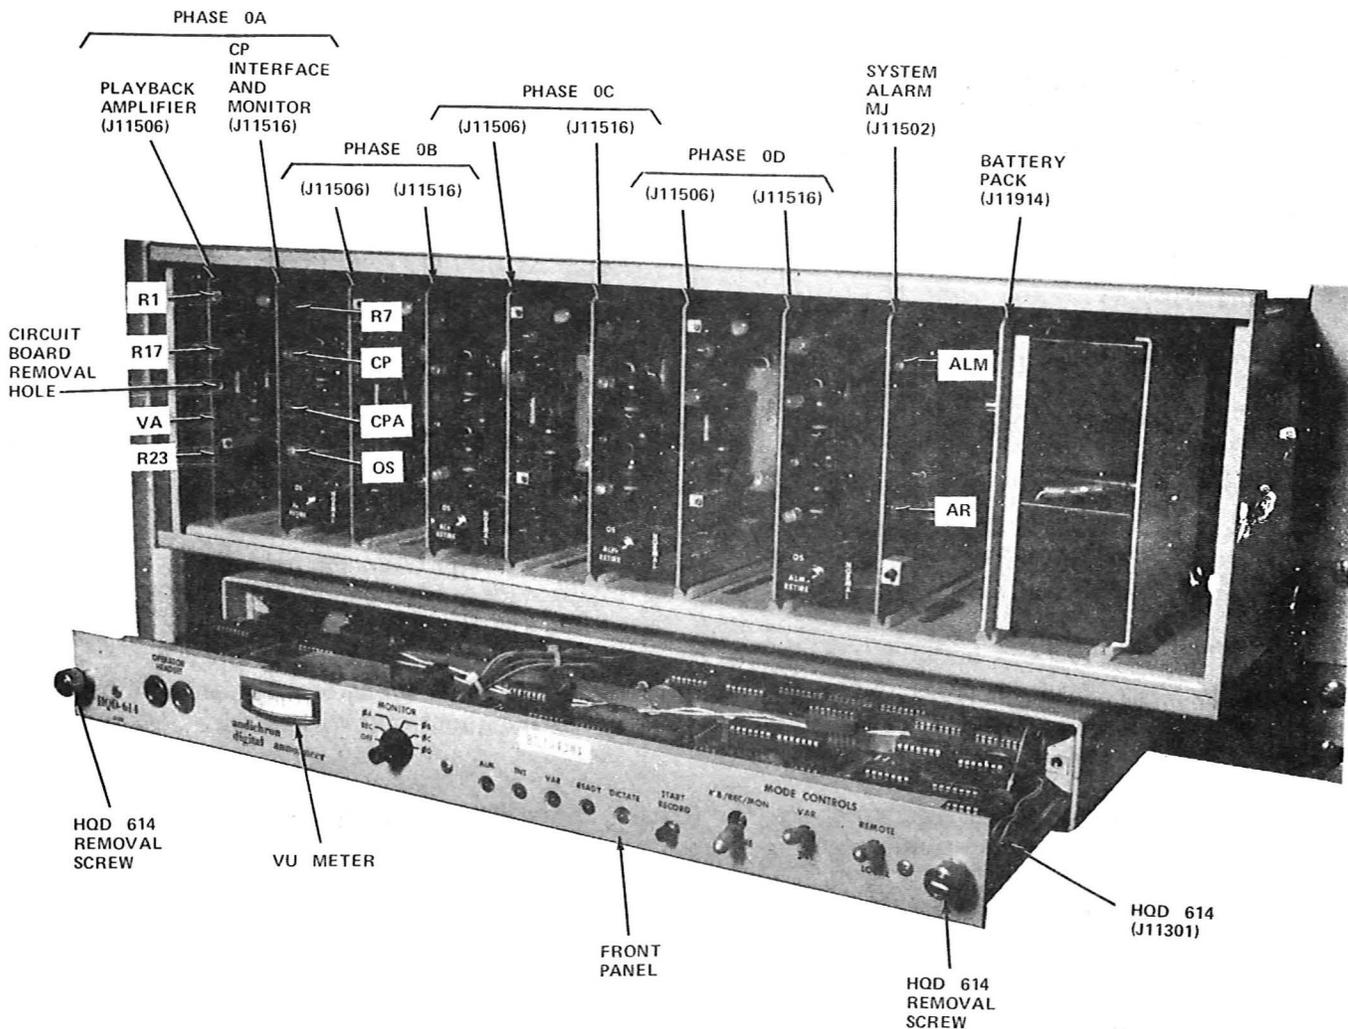

Fig. 1 - HQD 614 (front covers removed)
3.1 Mount the Audichron Recorder/Announcer unit (Fig. 1) in the auxiliary cabinet using the hardware provided.
3.6 Insert ckt packs as shown in Fig. 1. Battery pack (J11914) is optional.